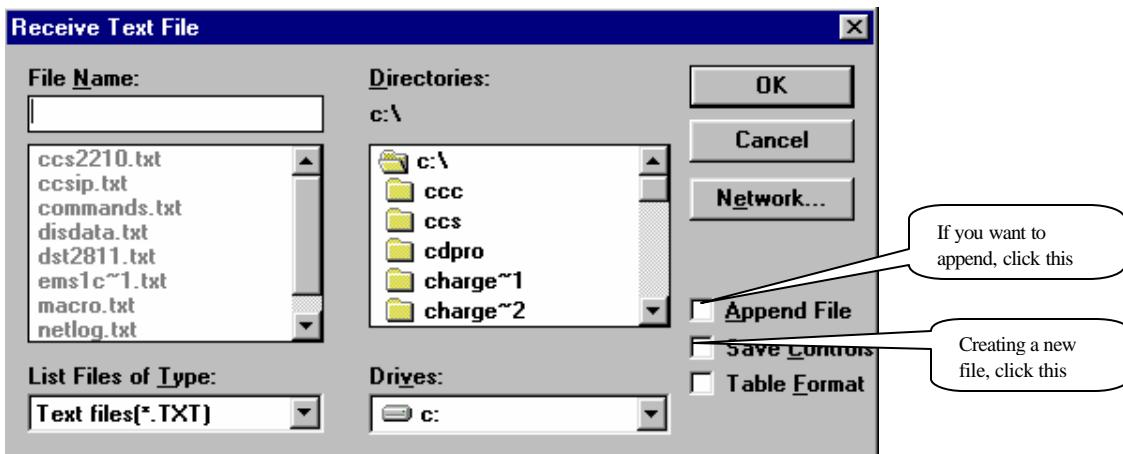

Fig4 Receive Text File Dia log Box
- If you want to save the file or append to the existing file, then select **Receive Text File** from **Transfers** menu. The **Receive Text File** dialog box is displayed as shown in Fig 4.